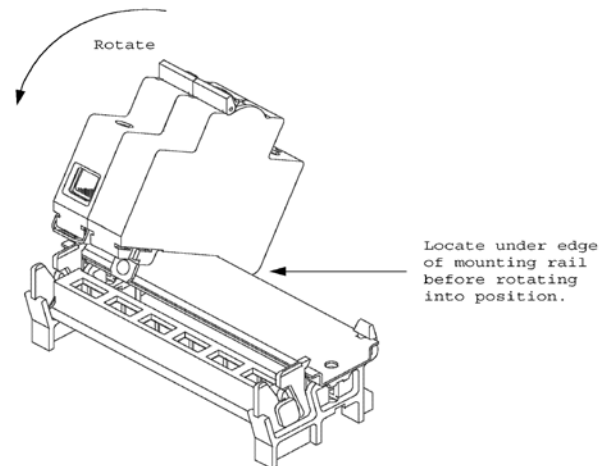

Fig 4.1
- Clip main incoming device onto the mounting rail in the desired position and push fully home. Ensure the retaining clip engages (Fig 4.1)